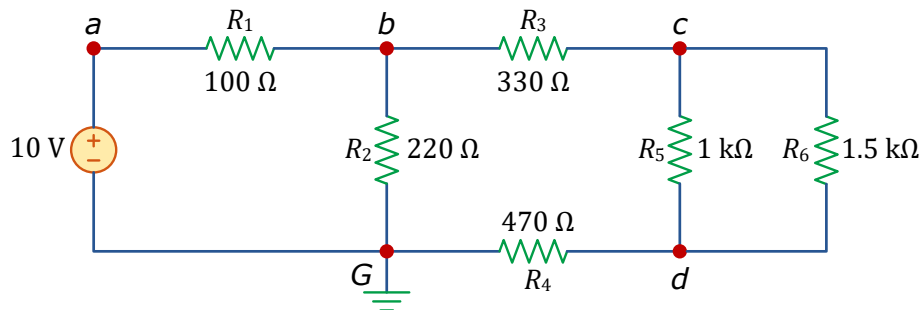

Figure 3.5: Resistive circuit for Lab Experiment 3.
- 5 Build the circuit of Figure 3.5 on your prototyping board, using the laboratory power supply as the 10 V source. Then, using the digital multimeter, measure the voltages of nodes *a*, *b*, *c* and *d* with respect to reference node *G* and write them down in the Table below. How do they compare with the calculated values in Lab 3: Pre-Lab work?
- 7** Find the current through the 100- Ω , 220- Ω and 330- Ω resistors, (a) using the measured voltage across the resistances from the previous question (use actual measured values for resistors), and (b) by directly measuring them using the multimeter. Record all your results in the following Table and compare them with the calculated values in Lab 3: Pre-Lab work. Make sure to label the current directions that you chose for calculation and measurements on the circuit of Figure 3.5.